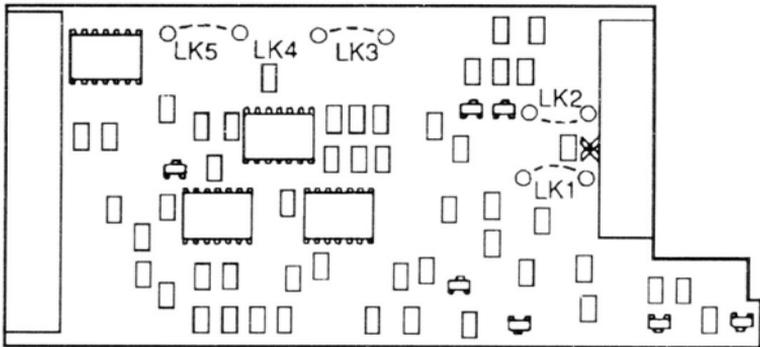

Figure 7-2. Voltage and 2-Wire/3-Wire RTD Conversions
To convert the controller from 115 VAC to 230 VAC, refer to Figure 7-2 and proceed as follows:
To convert from 230 VAC to 115 VAC, refer to Figure 7-2 and proceed as follows:
To convert from an input of a 2-wire RTD sensor to a 3-wire RTD, refer to Figure 7-2 and proceed as follows:
1. Cut PC Board cladding where marked with an 'X' (Fig 7-2).